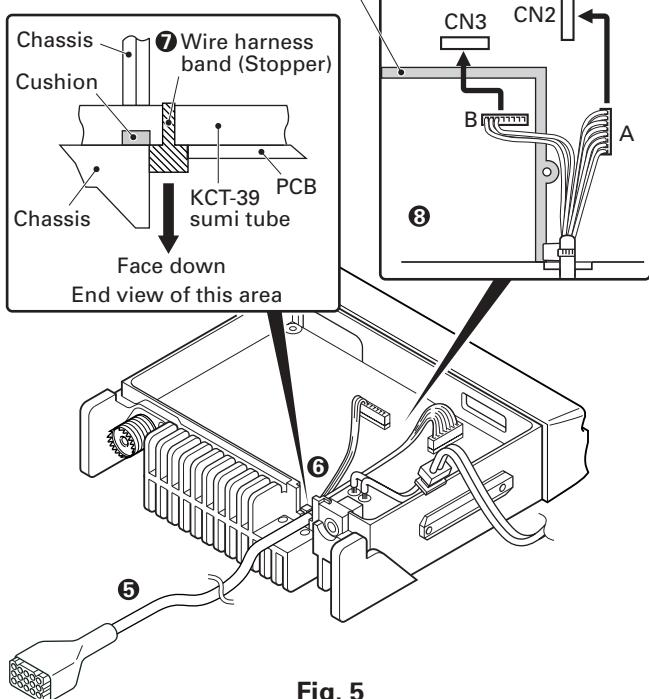

Fig. 5
- Insert the KCT-39 cable (⑤) into the chassis (⑥). The wire harness band (⑦) must be inside the chassis and face down.
- Connect the KCT-39 to the TX-RX unit as shown in Figure 5 (⑧).